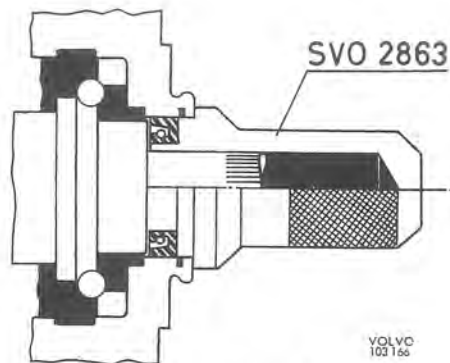

Fig. 6-56. Installing sealing ring
5. Fill the space between the new sealing ring lips with multipurpose grease. Fit the sealing ring on to installation tool SVO 2863 with the help of the loose guide. Remove the guide and fit the sealing ring in the steering box, see Fig. 6-56.